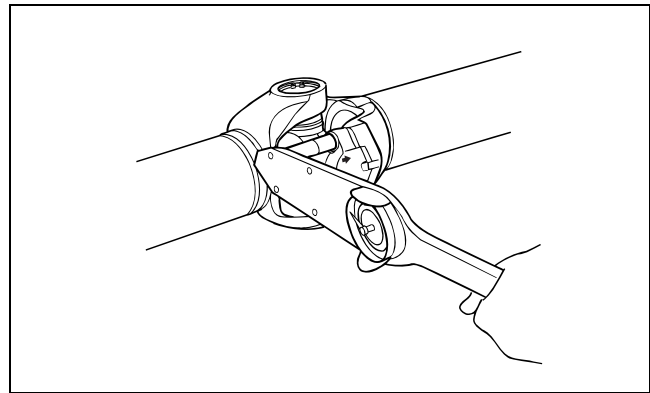

Figure 4.43
4. Use a torque wrench to alternately tighten the capscrews to 115-135 lb-ft (155-183 N•m). Figure 4.43. ⚠